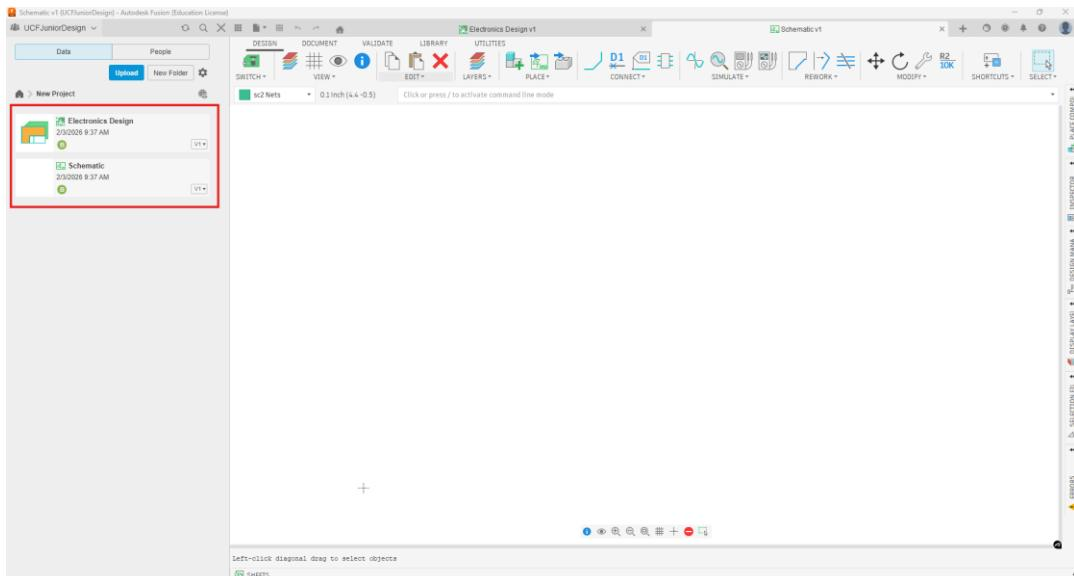

Figure 3: Fusion's new schematic.
3.3: Open a new **electronic design** then new **schematic** as shown in Figure 3. Save this schematic with a new name.